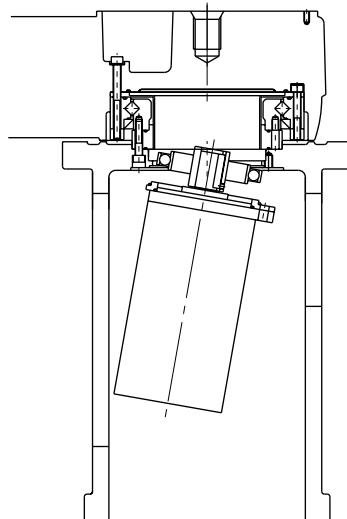

Fig. 5-36
- 8) Slowly pull out the motor while holding it slantways. (See Fig. 5-36.) If it is difficult to remove the motor, slowly rotate the X-axis arm and again try removing the motor.
- 18) Fit a new O-ring to the motor and temporarily fasten the motor and spacer to the base with the bolts (M6×20L, 4 pieces) you removed earlier. Insert a new O-ring between the spacer and the base at this point. Insert the motor with the wave generator into the harmonic drive while holding the motor slantways. If it is difficult to insert the motor, try inserting it again while slowly rotating the X-axis arm. (See Fig. 5-36.)